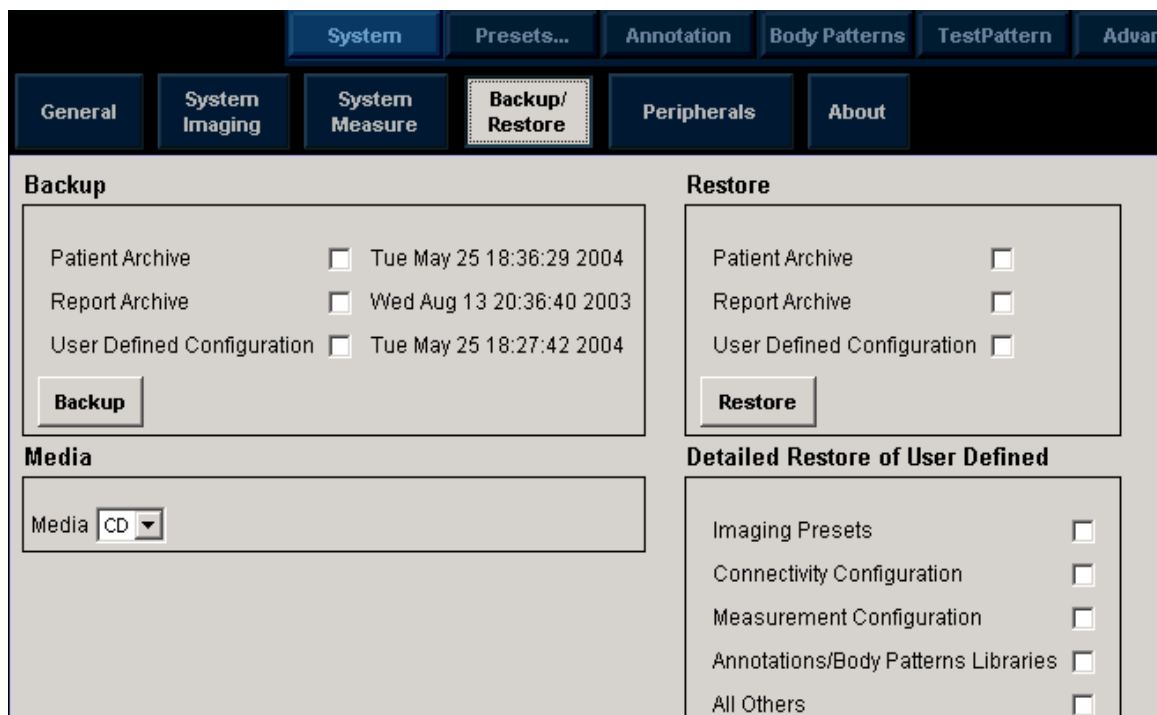

Figure 4-45 Backup Sheet
- 2.) Access to the Utility Menu, and select Backup/Restore. The Restore sheet will be shown on the LCD display. (see Figure 4-45 on page 4-5)